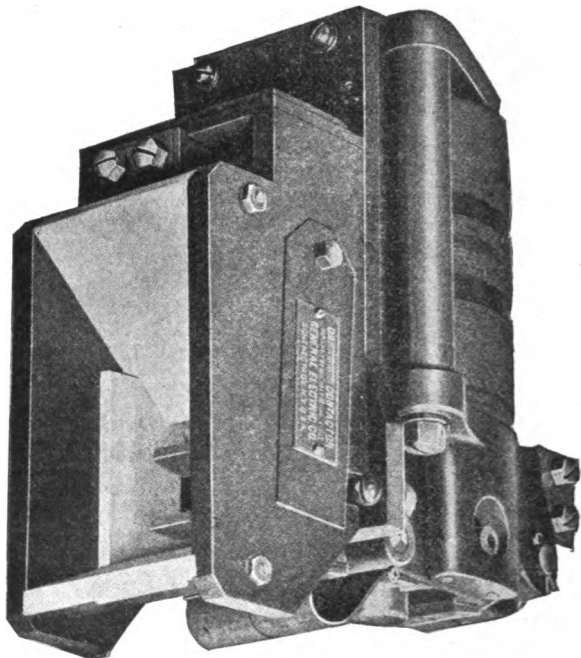

Fig. 504. Contactor for Large Current
48. THE CONTACTOR (Fig. 504) is an electro-magnet switch (see general description under paragraph 7, Suburban Motor Cars), with two contact arms and sets of contacts in multiple operated by one plunger. There are 43 of these contactors which are located in the end compartments of the cab, one group on each side of each end compartment. The contactors are suspended by insulating bolts from channel iron supports. The contactors are numbered progressively around the cab, No. 1 being the nearest the No. 1 reverser. Each contactor has a plate with its number, which is attached in front above the arc chute.